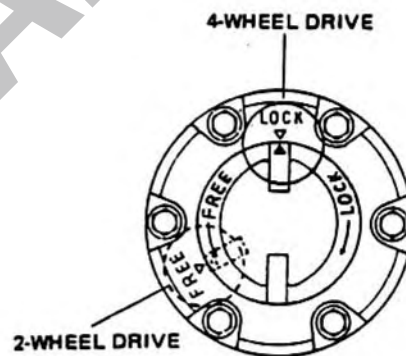

Figure 1:2
1.16 Vehicles can be fitted with free-wheeling hubs to reduce noise and wear, and improve fuel consumption. However, you must ensure that both hubs are locked in position before selecting 4WD. Free-wheeling hub selectors are located at the centre of the front wheels and have two distinct positions (Commonly marked LOCK and FREE). In the LOCK position, the axle is connected to the wheels by a dog clutch system enabling power to be delivered to the wheels when 4WD is selected. (See Figure 1:2).